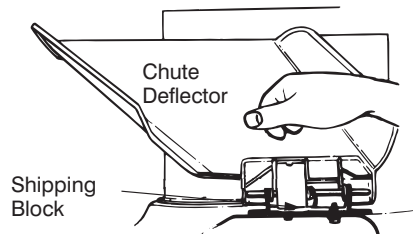

Figure 9
CHUTE DEFLECTOR (See Figure 9)
- The chute deflector on your mower may be held in an upright position by a block for shipping purposes only. This shipping block must be removed and discarded before the mower is put into operation. See Figure 9.